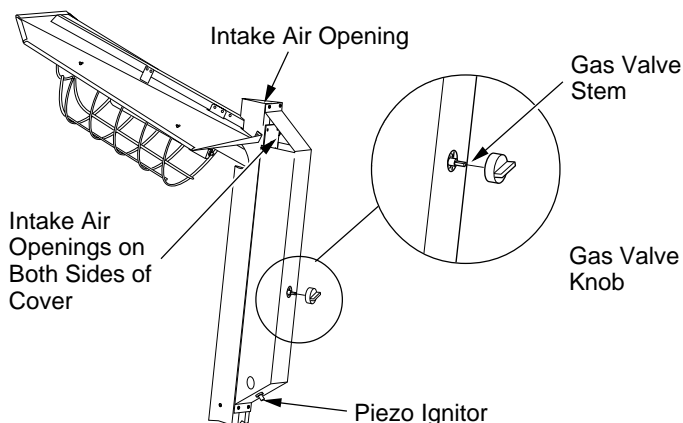

Figure 12 - Installing Gas Valve Knob
- Do not block intake air openings, see Figure 12, page 6.
1. Keep heater clean. Remove any debris from ventilation openings (see Figures 12 and 13, page 6).